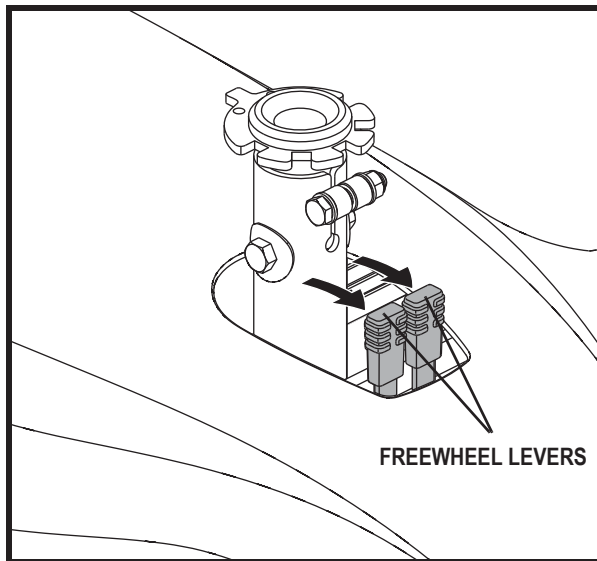

Figure 8. Drive Mode (Drive Engaged)
2. Push both levers forward away from the seat post to engage the drive motors (drive mode). See figure 8.
2. Ensure the power chair is in drive mode. **See figure 8.**